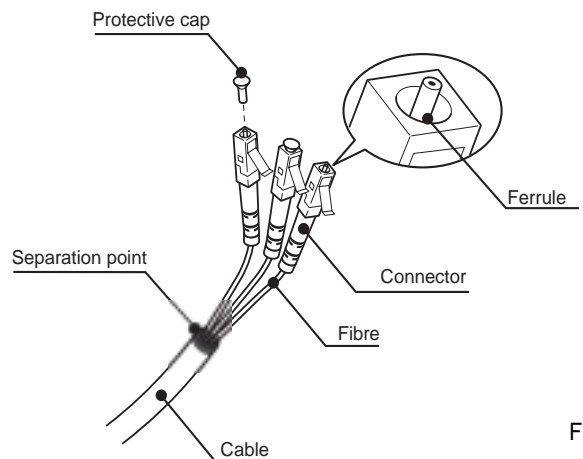

Fig. 3
- The individual optical cables are delicate: always handle the main cable without touching the individual optical cables (Fig. 3). Never pull the individual optical cables or connectors; if necessary, you may pull the main three-core cable.